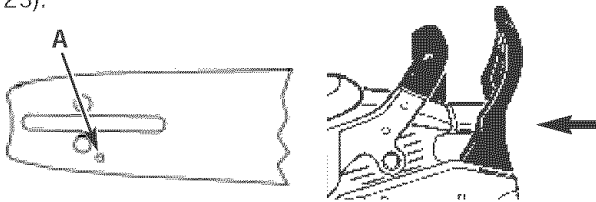
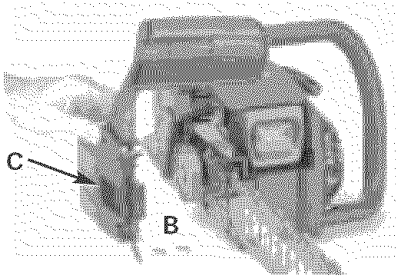
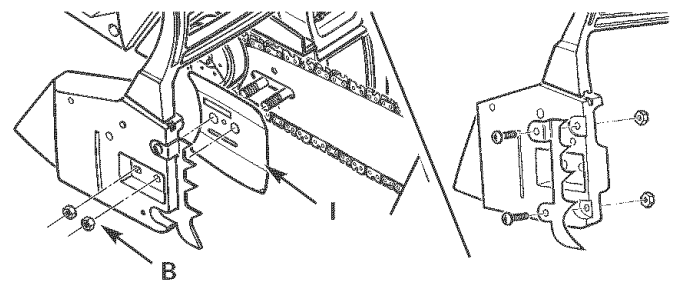
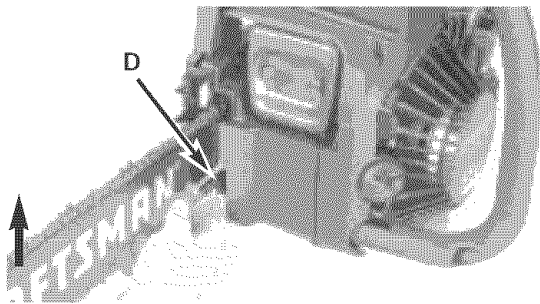

Fig. 21
Fig. 22
Fig. 27
Fig. 28
1. Make sure the Chain Brake® lever is pulled back into the DISENGAGED position (Fig. 21). Remove bar retaining nuts with supplied multi-purpose tool (Fig. 22).
2. Remove chain brake cover (C, Fig. 22) and outer guide bar plate (I, Fig. 27) by pulling straight out (Fig. 22).
6. Replace the outer guide bar plate (I) so the bent edges (top and bottom) are directed away from the chain (Fig. 27).
7. Install the Chain Brake® cover (Fig. 27). Make sure the chain does not slip off of the bar. Install the 2 bar retaining nuts hand tight and follow instructions in Saw Chain Tension Adjustment.
1. Loosen the bar retaining nut(s) (B, Fig. 27). Hold nose of guide bar up and turn adjustment screw (D) CLOCKWISE to increase chain tension. Turning screw COUNTERCLOCKWISE will decrease amount of tension on chain. Ensure the chain fits snugly all the way around the guide bar (Fig. 28).